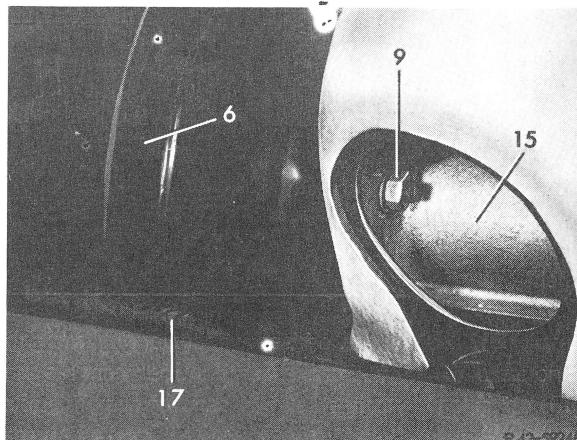

Fig. 3
**9** Attach brake unit to front end. Screw-in lefthand upper hex. nut via a hole in front end via direction of engine compartment (refer to Fig. 3). Tighten hex. nuts to 15 Nm (1.5 kpm). Insert rubber cover after tightening this hex. nut.